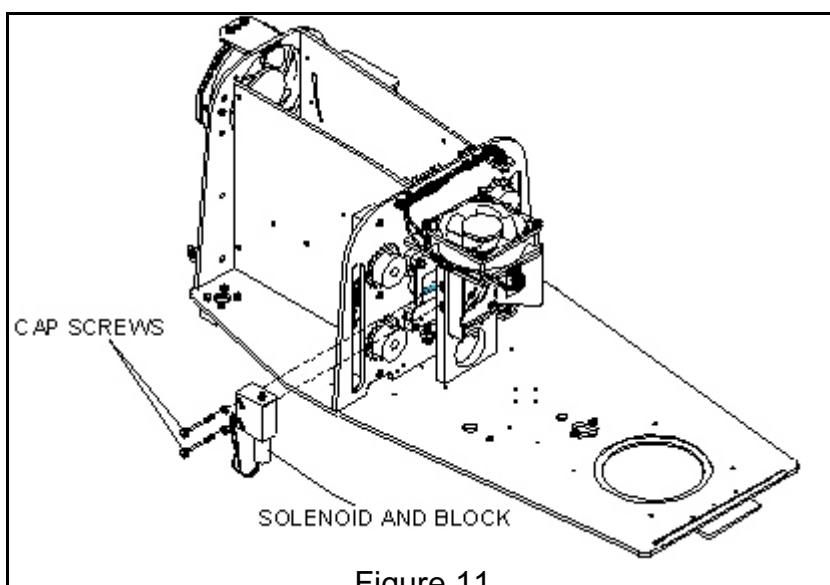

Figure 11
2. Remove the two cap screws holding the solenoid block (Figure 11) to the lens mount. Retain insulators between solenoid block and lens assembly, save for reassembly